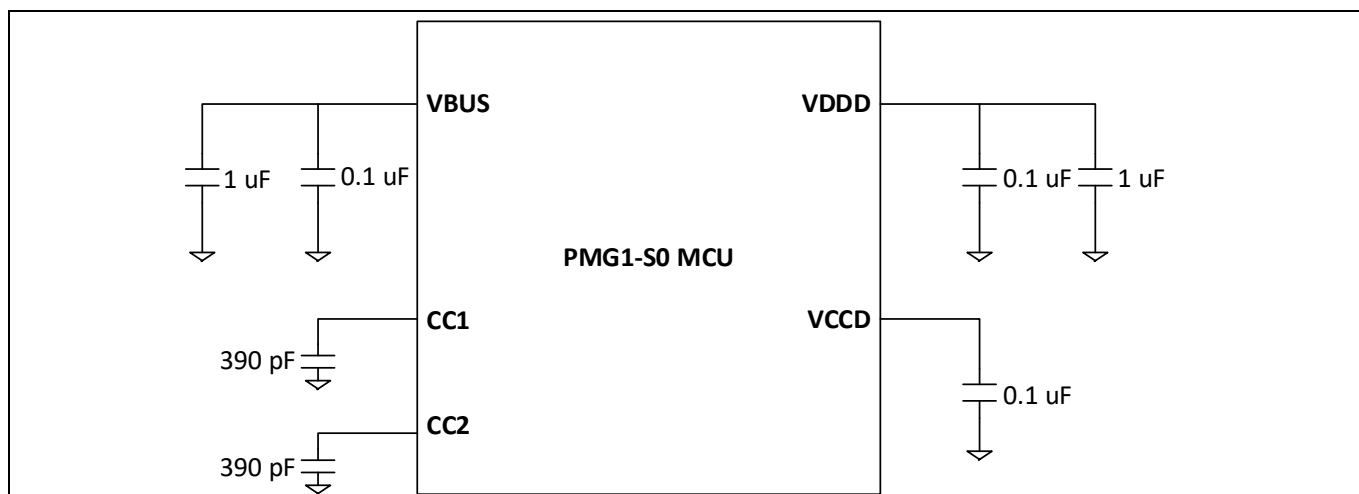
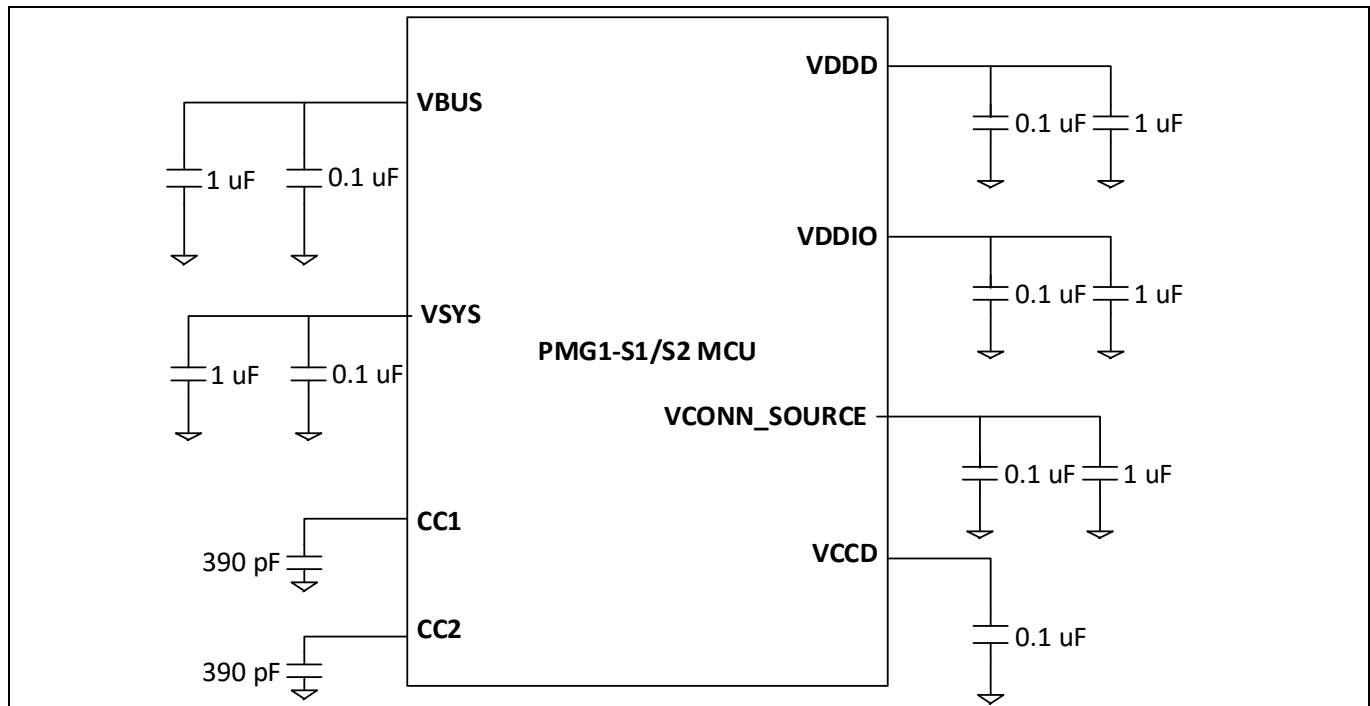

Figure 3 PMG1-S0 decoupling capacitor
Figure 4 PMG1-S1, PMG-S2 MCUs decoupling capacitors
- The VBUS pin of the MCU should be the power input pin. The power pin of the Type-C connector should connect to the VBUS pin as shown in Figure 3 and Figure 4.